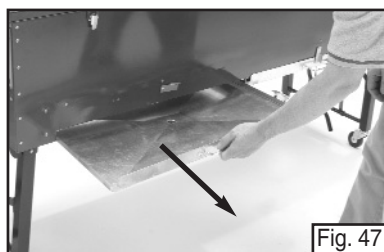

Fig. 47
- Slide out Grease Tray. (Fig. 47)